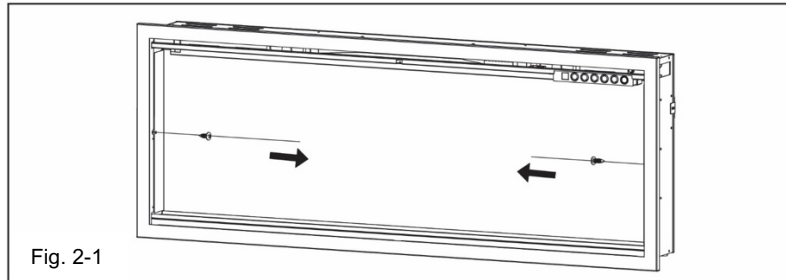

Fig. 2-1
- Remove the two screws (one per side) from the inside of the appliance and remove the interior walls. (Fig.2-1). Set the screws/walls aside.